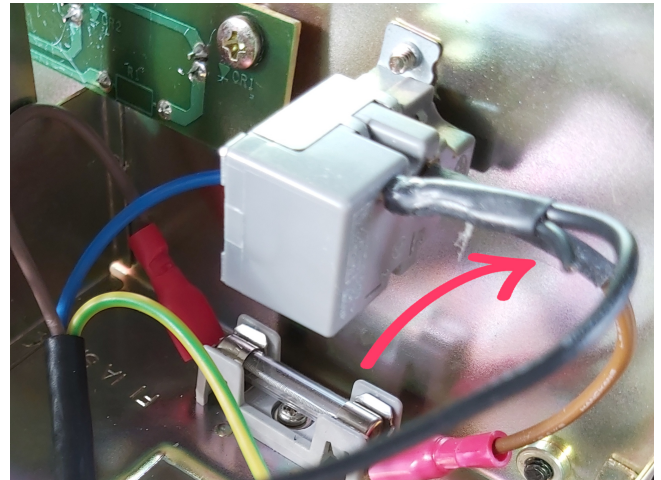
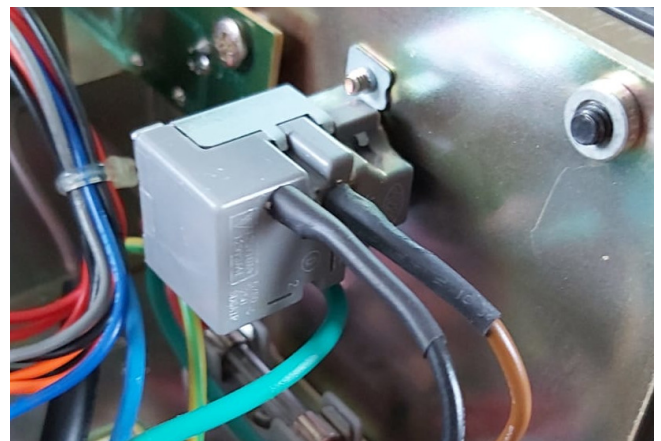

Figure 1.1: Remove the remaining length of the old fan power lead.
Figure 1.2: Cover the power terminal with new heat shrink tubing.
3. Remove the remaining part of the fan power lead attached to the power button by gently removing the old heat shrink tubing and cutting the lead as close as possible to the terminal (see Figure 1.1). Then re-cover the terminal and remaining lead with a suitable length of new heat shrink tubing (as shown in Figure 1.2).